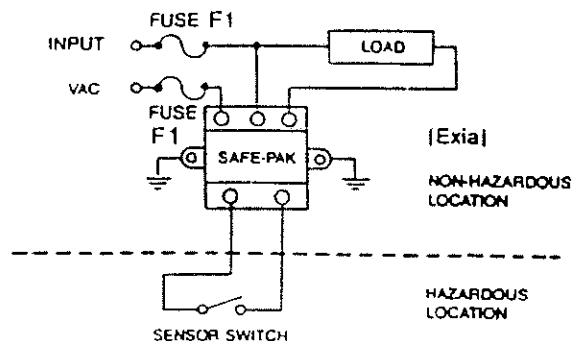

Fig. 1. Connection diagram, Gems SAFE-PAK models.
1. **Associated Equipment—Caution:** The Safe-Pak must be mounted outside the hazardous area; only the switch or sensor terminals provide an intrinsically-safe switch circuit (see Fig. 1 or 2).